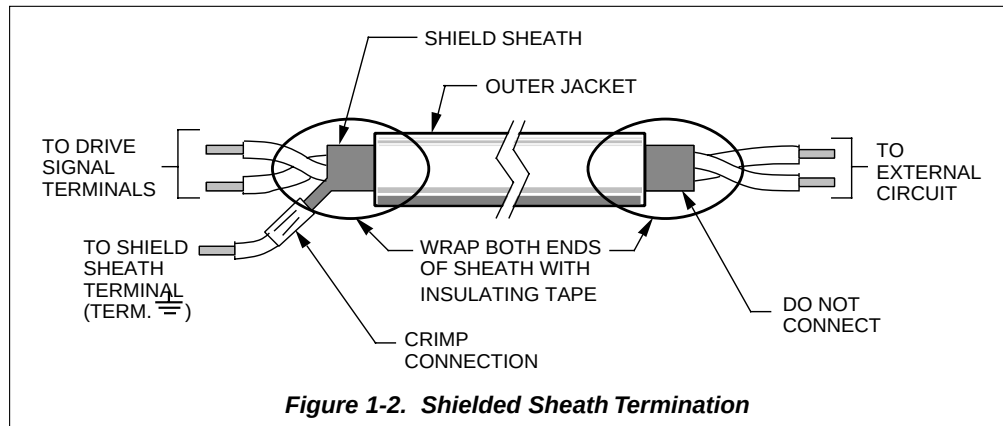

Figure 1-2. Shielded Sheath Termination
- Use twisted shielded or twisted-pair shielded wire (20-16 AWG [0.5 – 1.25mm²]) for control and signal circuit leads. The shield sheath **MUST** be connected at the drive end **ONLY** (terminal $\oplus$). The other end should be dressed neatly and left unconnected (floating). See Figure 1-2.
- Signal leads and feedback leads (PG) must be separated from control leads main circuit leads, and any other power cables, to prevent erroneous operation caused by electrical noise.